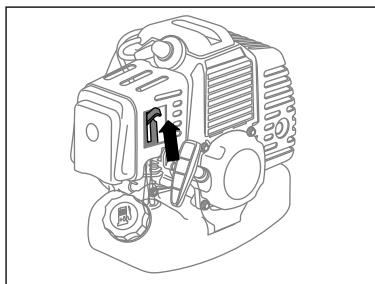
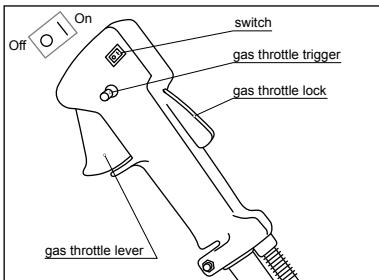

fig. 11
fig. 14
- Move the air valve lever upwards to position || (fig. 11). Turn the switch on the control lever to the "On" position (fig. 14).
- Smoothly press the gas throttle lever, bringing the engine to its maximum speed and start operating the unit (fig. 14). To mow, hold the trimmer firmly with both hands on the handles.